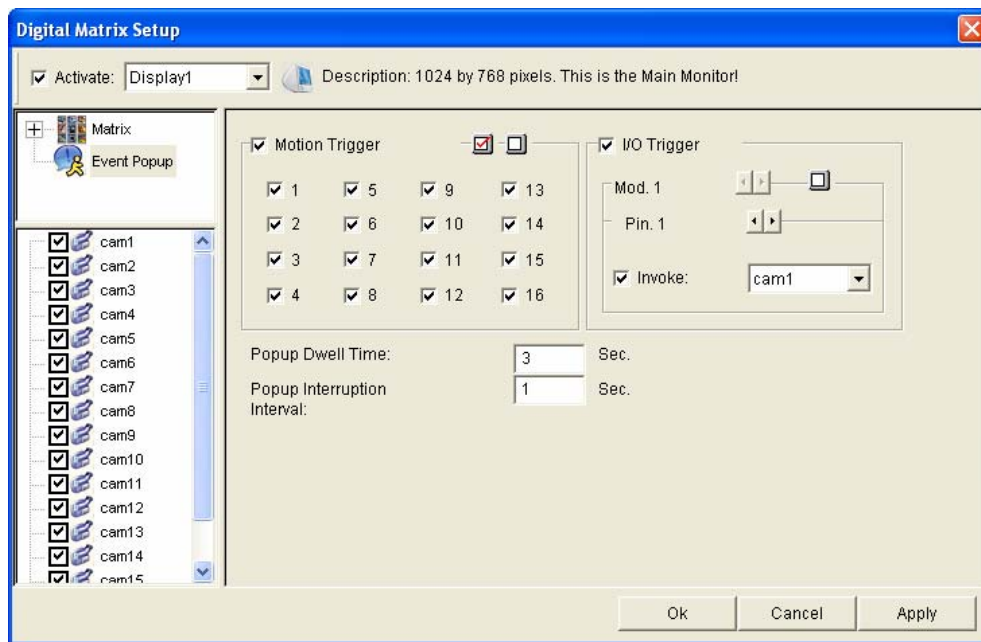

Figure 11-85
2. To configure pop-up alert, in the upper left column, click **Event Popup**. Figure 11-85 appears.